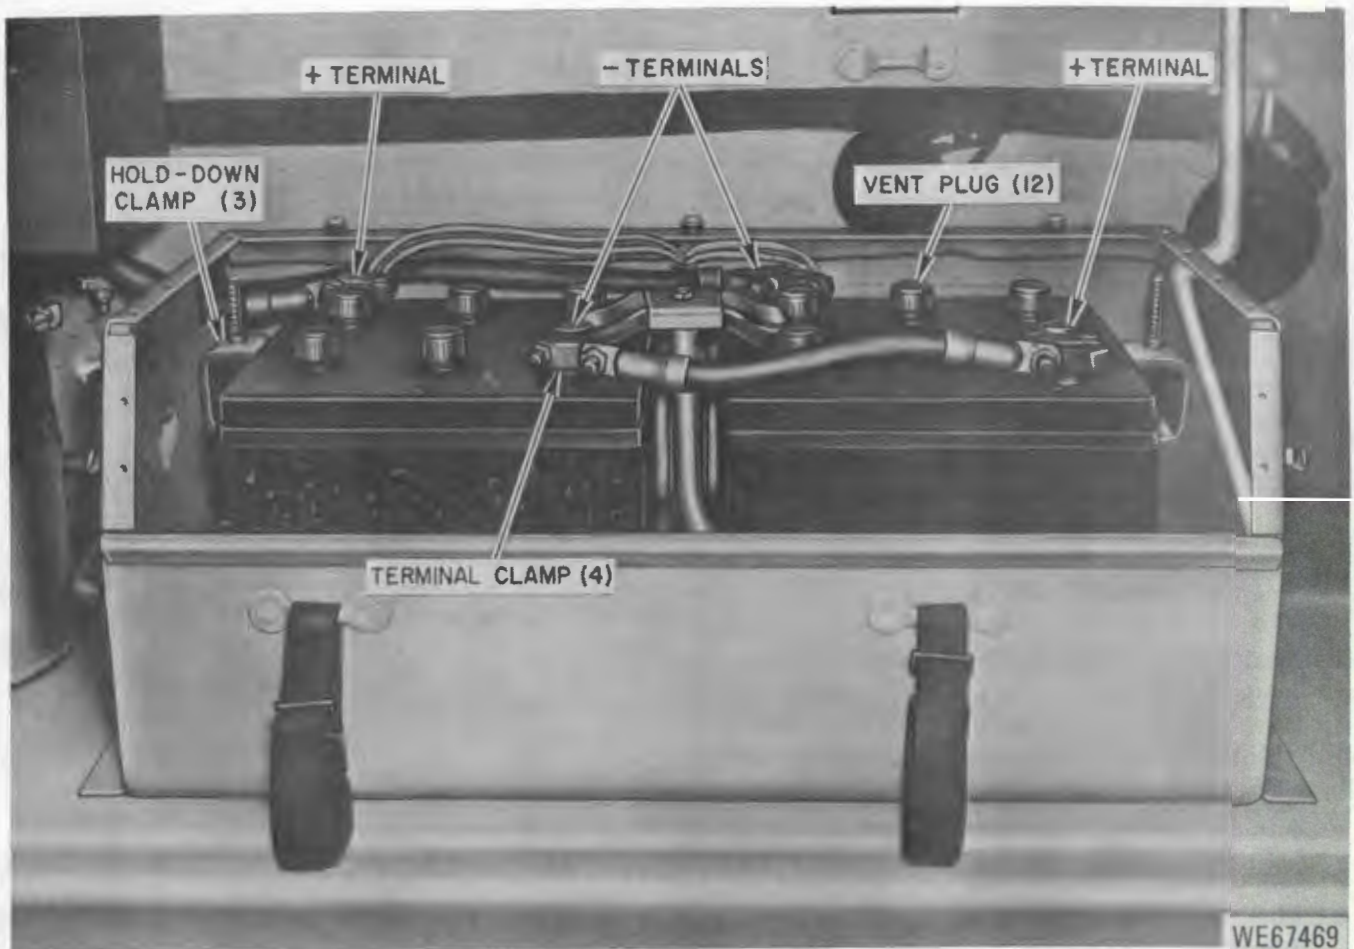

Figure 3-10. M741 chassis batteries.
(1) If openings in screen are clogged, clean until free of debris.
(2) Run a wire in and out of the vent hole in pump to ensure that hole is open.
*g. Batteries (fig 3-10).*